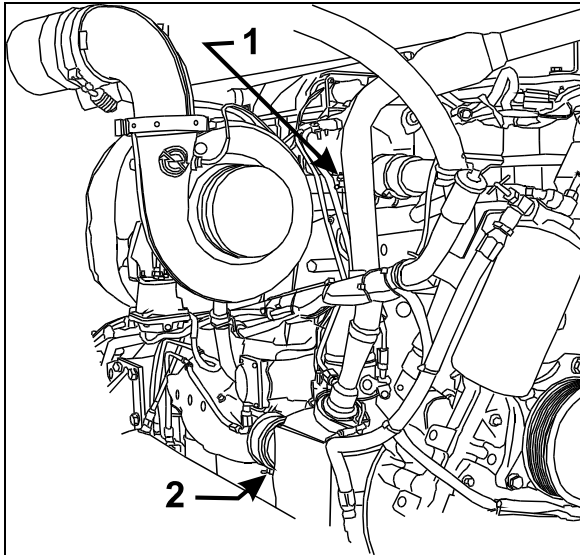

FIGURE 10: ENGINE COOLANT DRAIN COCKS 05088
4. Open drain cock at bottom of thermostat housing to drain the coolant trapped above the thermostats (1, Fig. 10).
5. Open engine drain cock (2, Fig. 10).